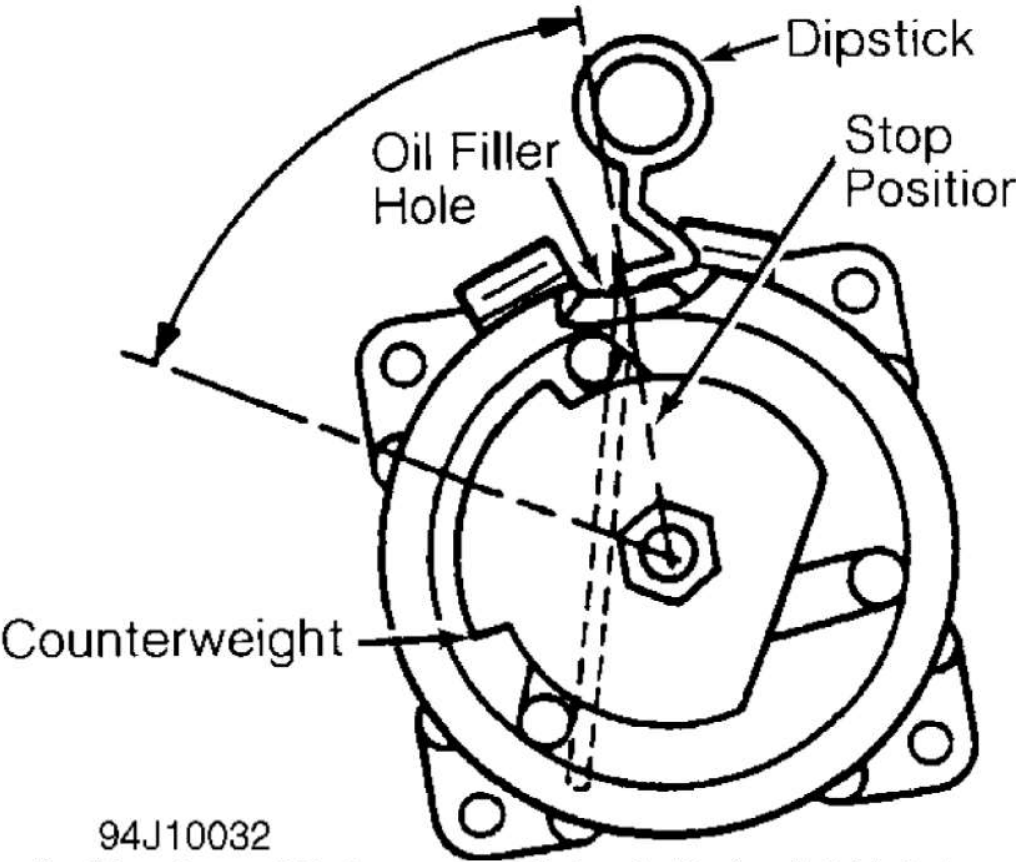

Fig. 1: Checking Jaguar XJS Compressor Oil Level (Sanden 7-Cylinder)
- 2) Determine angle at which compressor is mounted. Insert compressor dipstick diagonally until stop on dipstick contacts filler plug surface. See Fig. 1. Remove dipstick and note oil fill level. Each increment on dipstick represents one ounce of oil.